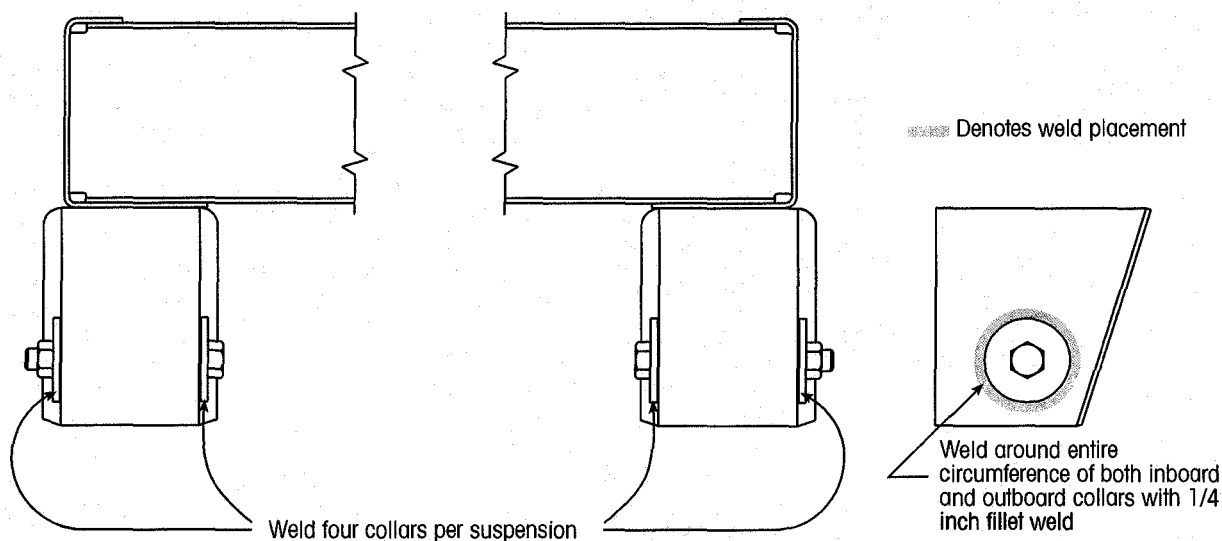

Figure 31: Welding locations on welded collars
6. Weld around the inboard and outboard collars on each end of the axle with a 1/4 inch fillet weld (Figure 31).